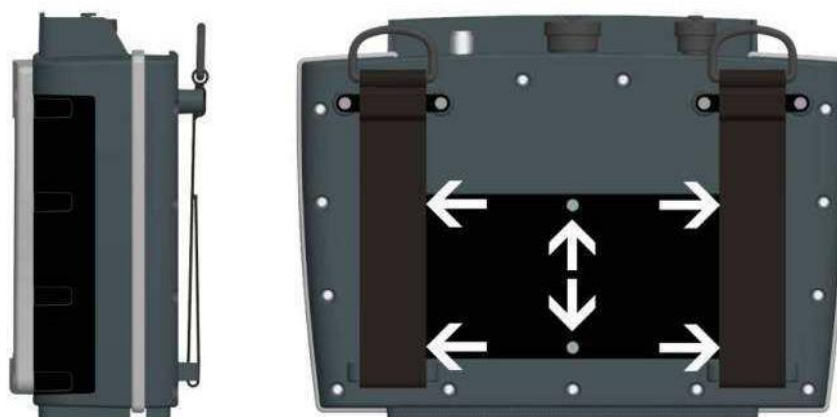

Figure 1
2. Remove 6 off M3 x 10 Posi countersunk screws as indicated in figure 1 using a No. 1 Posi bit.